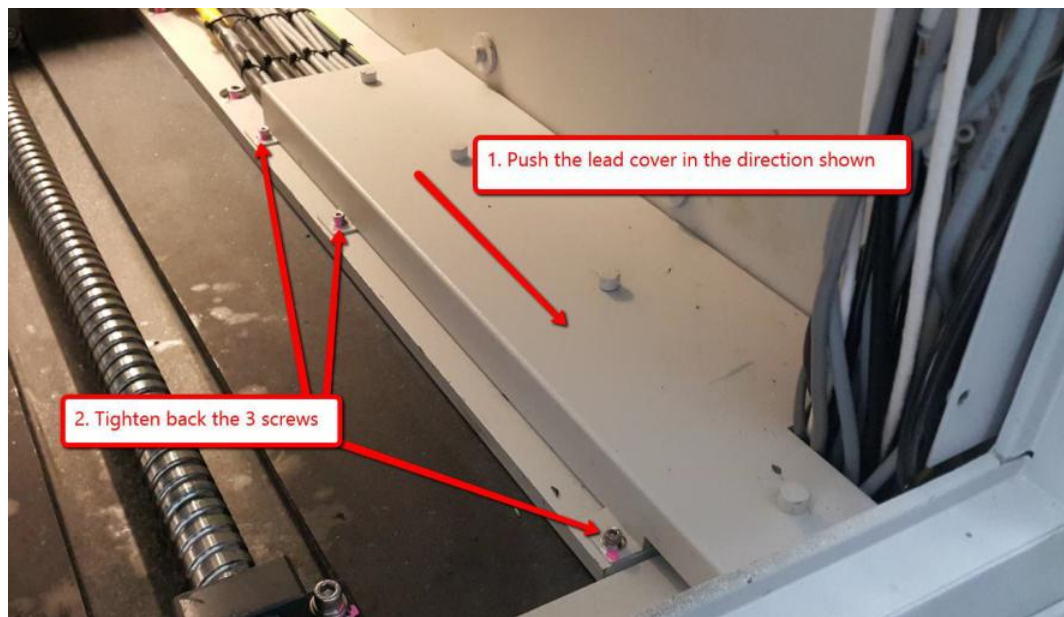

Figure 23 Lead Cover
17. Place back the lead cover and push it in the direction shown in the Figure 23. Then, tighten back the 3 screws as shown in the Figure 23